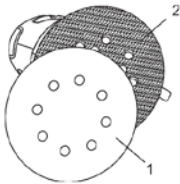

Fig. 1
To install a sanding disc, firmly press the sanding disc (1) onto the hook and loop pad (2) (Fig. 1).